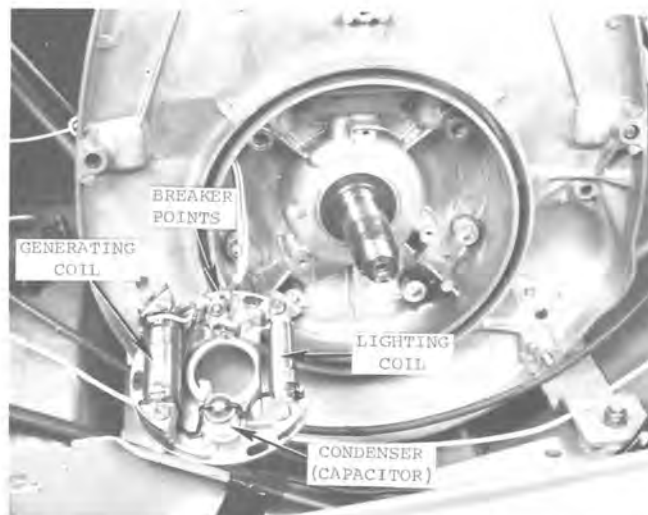

Fig. 37 — Magneto Coil Plate Assembly — Identification of Parts
c. Place aligning marks (for easier reassembly) across the magneto coil plate, then remove this plate's retaining screws. Place coil plate out of the way of the crankshaft. See Fig. 37. If any of the parts on the coil plate are to be replaced, use care when unsoldering connections.